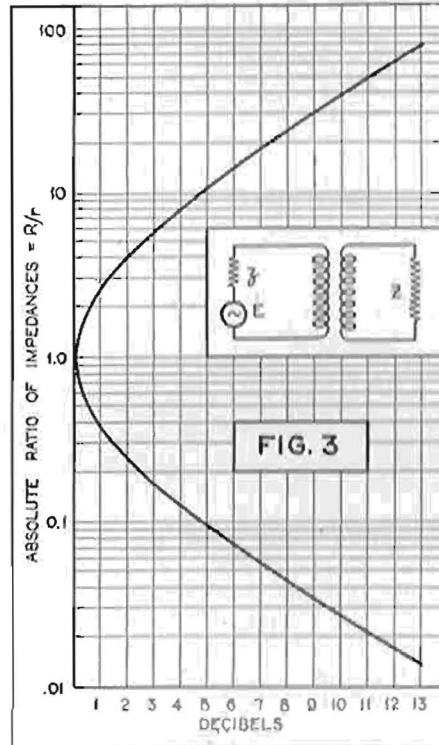

Fig. 3. Transformer loss curve. Showing gain obtained by inserting ideal transformer at junction of two circuits whose impedances are Z_0 and Z_2 .
Fig. 3 shows the graph of (3), (5) and (6), all of which are identical.